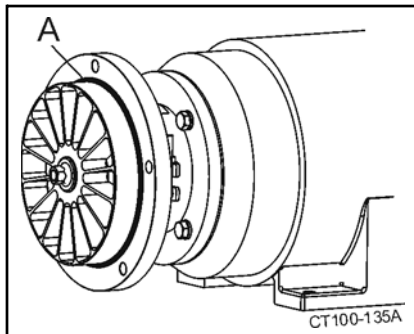

Figure 35 - Install Backplate Cover O-ring
7. Install backplate cover o-ring. (Figure 35, item A).